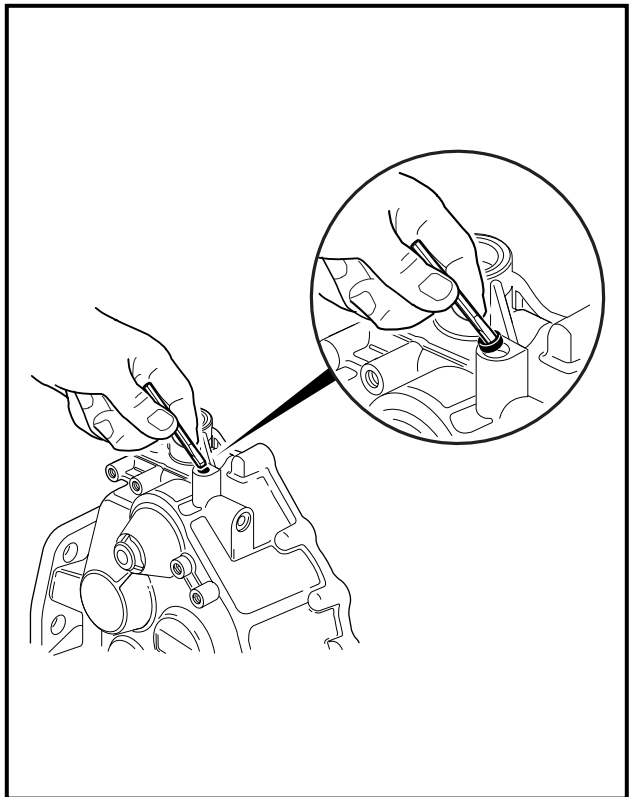

Figure 19-12 Pivot Arm Oil Seal
- 17.3. Use a small chisel or similar pointed instrument to pry the pivot arm oil seal (23) (**Figure 19-6, Page 19-6**) out of the case (**Figure 19-12, Page 19-8**).